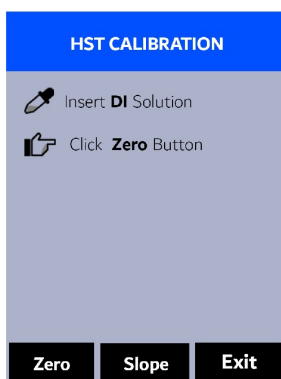

Figure 4.
3. Press **Calib** (◀ or ▶) to launch the **HST CALIBRATION** screen (Figure 4).